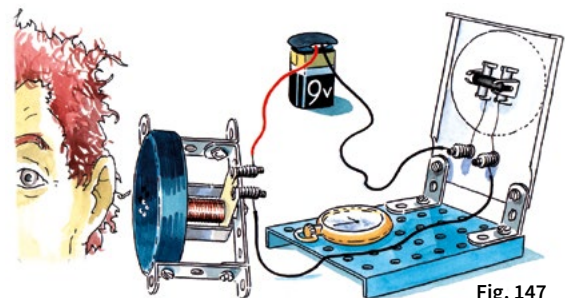

Fig. 148
1. Connect a solenoid to a galvanoscope (fig. 148) and with a very brisk gesture insert a magnet into the hole of the sleeve. The galvanoscope pointer will deflect, whereupon it will assume the initial position quickly. If the magnet is quickly drawn out, the pointer will deflect to the opposite direction.